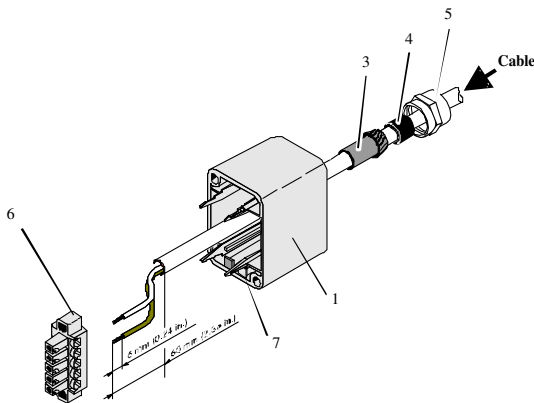

Figure 5-3: Arranged Parts for Mounting of the SAB Cab
- Remove all inner parts from the cable pipe at the SAB cab (1) (nut (5), pipe(4) and cable fastener (3)) (see Figure 5-3)
- Put all the removed parts (nut (5), pipe (4), cable fastener (3)) and the cable pipe of the SAB cab as well (1 to 4) to the cable.
- Stick the pipe (4) into the cable fastener (3).
- Stick the cable fastener (3) into the cable pipe.
- Connect the power supply cable into the right places of the MINI-COMBICON-connector (see Figure 5-3 Part (6)).
- Plug the finished assembled MINI-COMBICON-connector to the SAB cab. Take care of the correct coding ((7) in Figure 5-3) of the connectors.
- Fasten nut (5) of the cable pipes with the right tool (17mm).